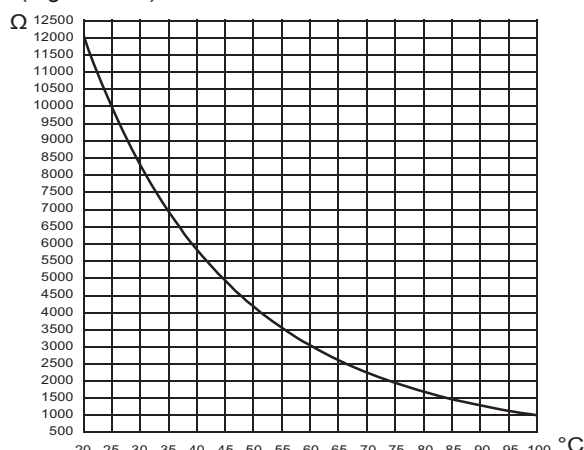

Figure 20.4
- 2 Measure the Flue temperature probe NTC electrical resistance at the ambient temperature and check it according to the graph in (Figure 20.4)